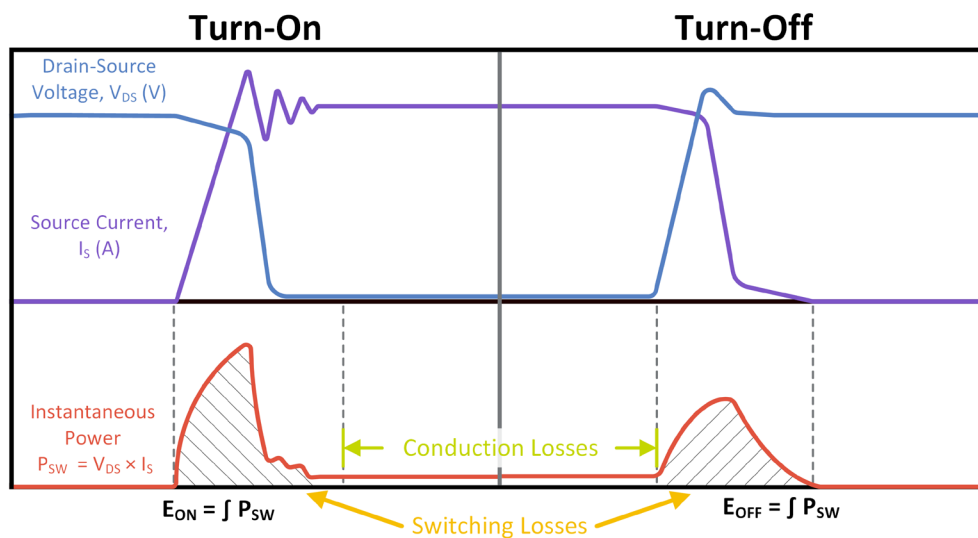

Figure 2: Notional waveforms of forward switching of Q2
Analysis of the measured V_{GS} , V_{DS} , and I_D waveforms allows for the calculation of switching loss energies under precise test conditions to dynamically evaluate the module and facilitate in-module comparisons and power electronic system design. During a CIL switching event, the voltage across and the current through a switch position are simultaneously present. Multiplying these two waveforms point-by-point results in a time-domain function of the instantaneous power in units of Watts (W). The instantaneous power has large peaks two times per switching period at the turn-on and turn-off events. The instantaneous power can then be integrated using built-in oscilloscope MATH tools or waveform data and post processing to determine the total energy lost in Joules (J) during a given switching event. A notional example of this process is shown in Figure 2. The waveforms can also be used to determine overshoots, dead times, and slew-rates.